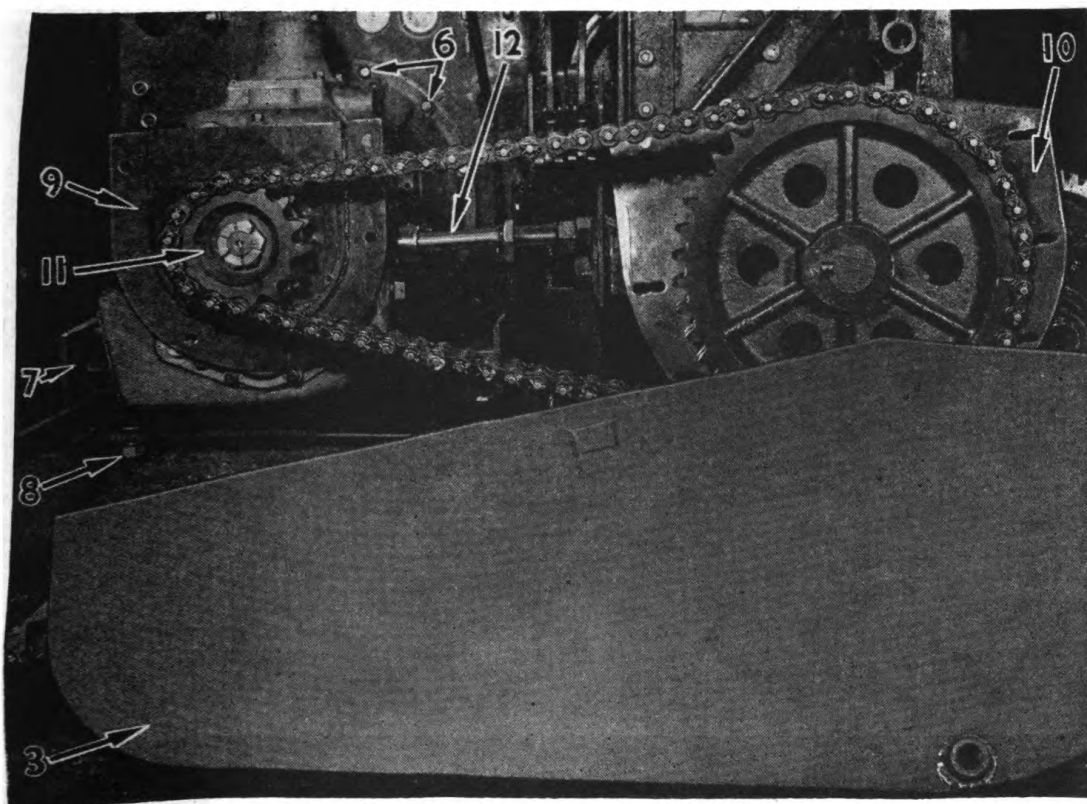

Figure 116. Chain guard removed revealing transmission drive chain from power unit at left to main jack shaft at right.
- (a) Remove spring (4) and cover (2) on chain guard (3). Drain and flush oil out of guard. This guard is held to a plate (9), Figure 116 on the transmission and another plate (10) on the main jackshaft end by $\frac{3}{8}$ " cap screws. Use care in taking this off to avoid damage to gaskets. The chain guard will drop down to rest on the crawler shoes after removal of the cap screws.
- (c) Double roller chain sprocket (11) on the transmission is secured to the splined shaft by means of a slotted nut, with cotter, and may be removed, if desirable. The plate (9) on which the chain guard mounts may then be removed.
- (d) Remove the thrust bolt (12) located just back of the chain
To adjust the tension of this drive chain, thrust bolt (12), Figure 116 is used. With guard in place, cap screws in plate (10) are loosened and the four bolts (8) in the engine angles (7) are to be loosened. Remove stop plate at top of frame at radiator end of engine. Slotted holes in plate (10) and structural frame under engine permit takeup of chain slack.